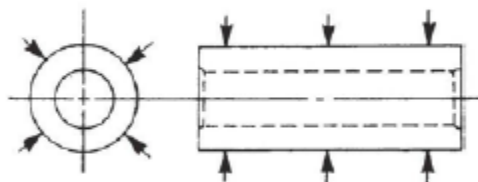

Figure 97.
6. Measure the outside diameter of the piston pin in three places and at 90° (Figure 97). See the *Mechanical Specifications Chart*. Record the measurements.